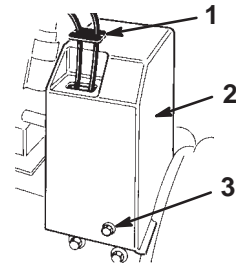

**Figure 4**
11. Install the lower belt cover on the underside of the auger/impeller housing and the engine frame with 2 1/2-inch (1 millimeter) flange-head bolts (Fig. 4).
1. Flange-head bolt (2)
14. Mount the upper belt cover to the engine frame with 3 flange-head bolts (1/2-inch) (Fig. 4).